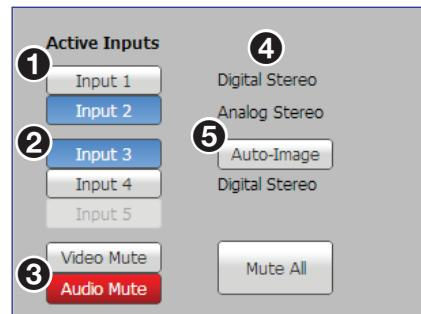

Figure 35. Active Inputs, Mute, Audio, and Auto-image
- **Channel A** (see figure 35, ①) — Composed of input 1 (HDMI) and input 2 (HDMI).
- **Channel B** (②) — Composed of input 3 (component/composite), input 4 (HDMI), and optional input 5 (3G/HD/SDI) for the SMP 351 3G-SDI and SMP 352 3G-SDI.
1. Click the input buttons (see figure 35, ① and ②) in the left column of the **Active Inputs** area to select AV sources for a presentation. Input changes take effect immediately.
2. To apply Auto-Image to input 3, click **Auto-Image** (⑤). Auto-Image automatically sizes and centers the selected input to match the channel B window.
3. Click the desired button (③) to mute video only (**Video Mute**), audio only (**Audio Mute**), or both audio and video (**Mute All**).